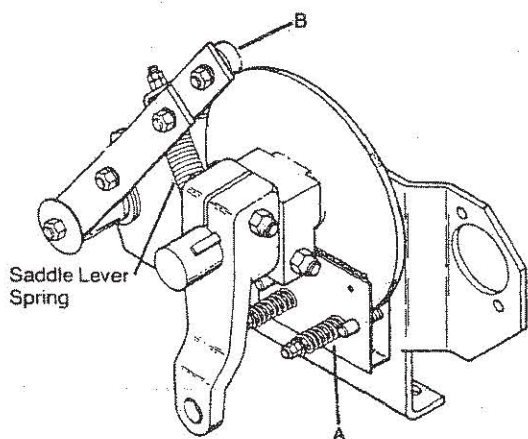

Fig. 16
a. Adjust the brake shoe tension springs so that the springs are fully depressed, "A," Fig. 16.